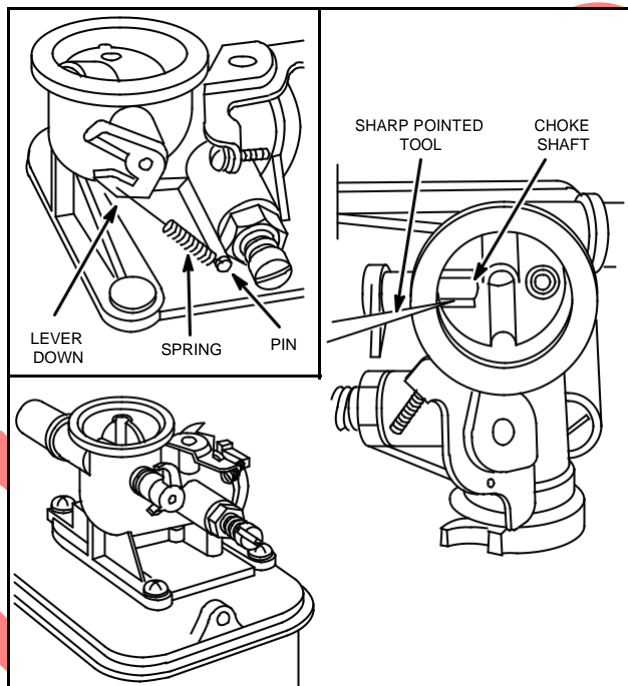

Fig. 152 – CHOKE SHAFT AND VALVE – CHOKE-A-MATIC
1. To remove choke parts, first disconnect choke return spring (when used), Fig. 152.